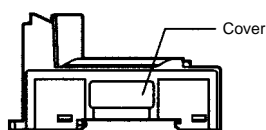

Figure 1
1. Remove the cover from the side of the SRT1-T D04S. (See Figure 1.)